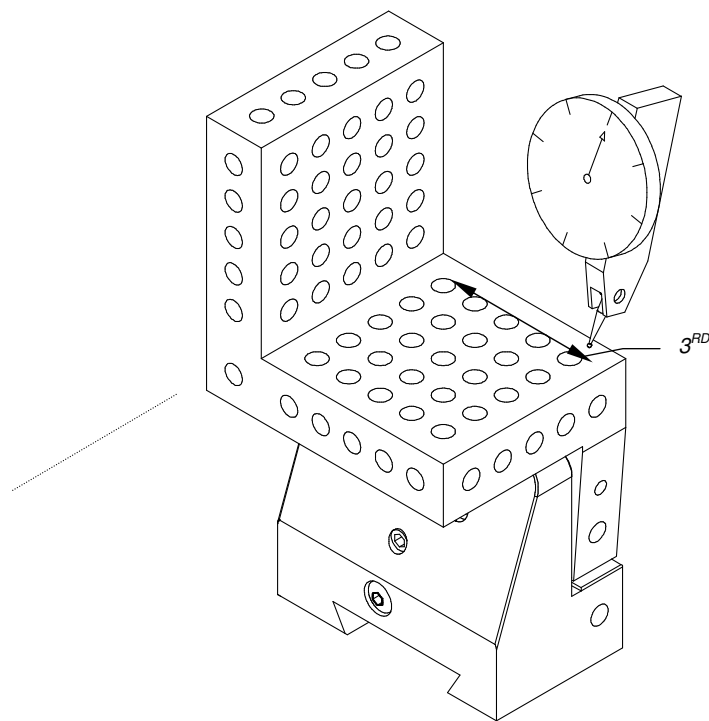

Figure 4
STEP 5. TRUING OF THE THIRD-AXIS Remove the AP01/TD01 from the truing station and set it on the surface plate as shown in Fig. 4.
STEP 6. (A). Place the indicator ball on the AP01 in-line with the first row of holes as shown in Fig. 4. **(B).** Zero the indicator. **(C).** Move the indicator ball to the other end of the third-axis. **(D).** Turn the cam on the TD01 until the indicator returns to the zero set. The third-axis is true.